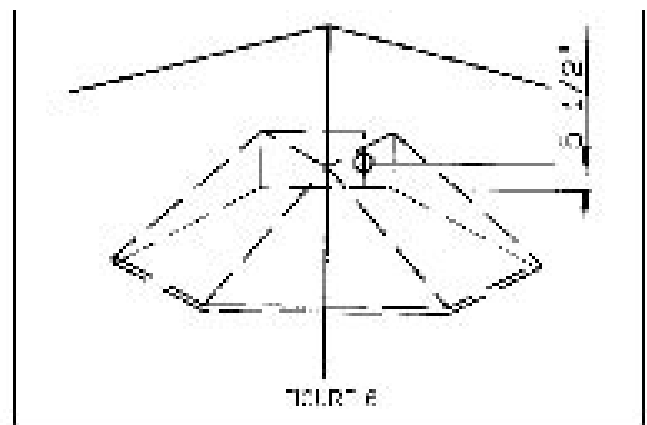

FIGURE 6
6. Determine the proper location for the Power Supply Cable as indicated in FIGURE 6. Use a 1/4" Drill Bit to make this hole. Run the Power Supply Cable. Use caulking to seal around the hole. **DO NOT** turn on the power until installation is complete.